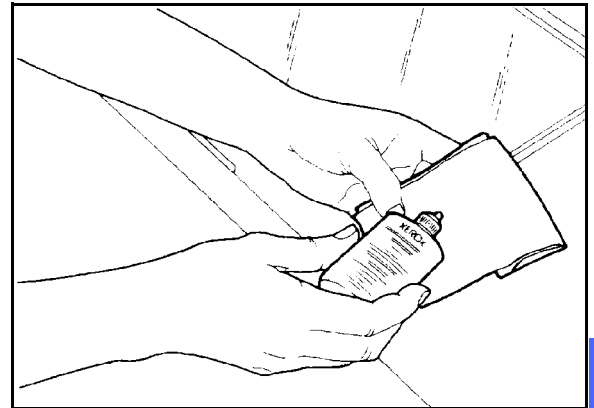

Figure 2: Dampening a lint-free cloth
- 1 Slightly dampen a clean lint-free cloth (Figure 2) with a small amount of Xerox or Xerox Europe Lens and Mirror Cleaner or a glass cleaner that is not abrasive.